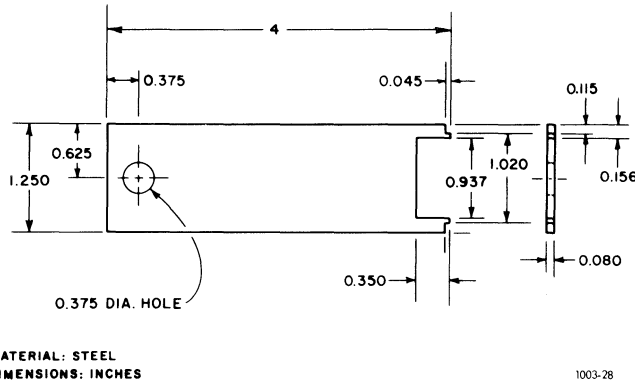

Figure 5-11. Spanner wrench for attenuator nut.
e. Remove the slotted ring nut that surrounds RF OUTPUT connector. Use a special tool, see Figure 5-11, to